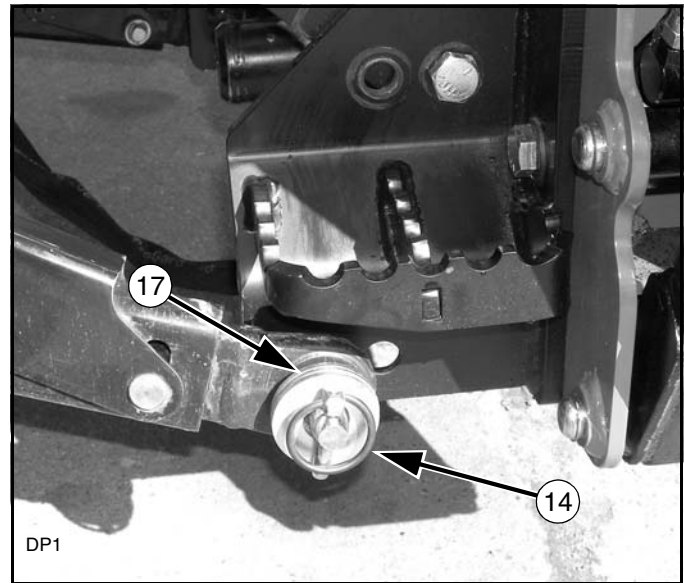

Figure 7. Tractor 3-Point Arm Installed
5. Connect tractor 3-point lower lift arms to the mounting pins on the backhoe. Secure using klik pin (14) and washers (17). Use washers to take up slack between klik pin and 3-point arm. See Figure 7.
6. Connect double top link bar to the tractor top link bracket. Use top link pin supplied with your tractor and sleeve (12). If necessary, separate and adjust top link bars IN or OUT to maintain the backhoe vertical position. See "Tractor Connections" on page 11 for tractor top link specifications.